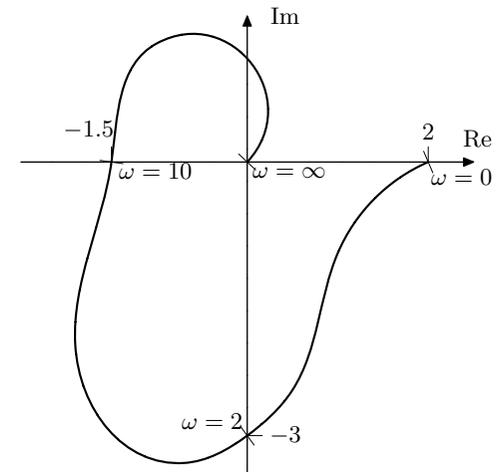
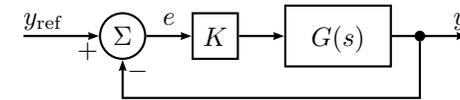

Figure 3.17a
Figure 3.17b
3.17 The system $G(s)$ is asymptotically stable and has the Nyquist curve in Figure 3.17a. It is controlled using feedback according to Figure 3.17b.